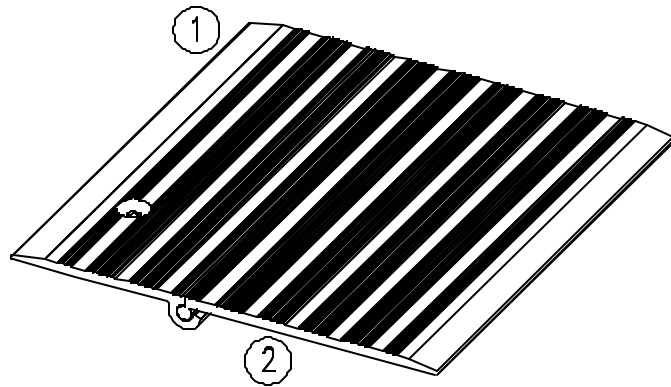

Figure 2
STEP 2. Select the base member and its corresponding center plate. Assemble the joint cover system by sliding the center plate's plug into the base member's socket (Figure 1 & Figure 2).